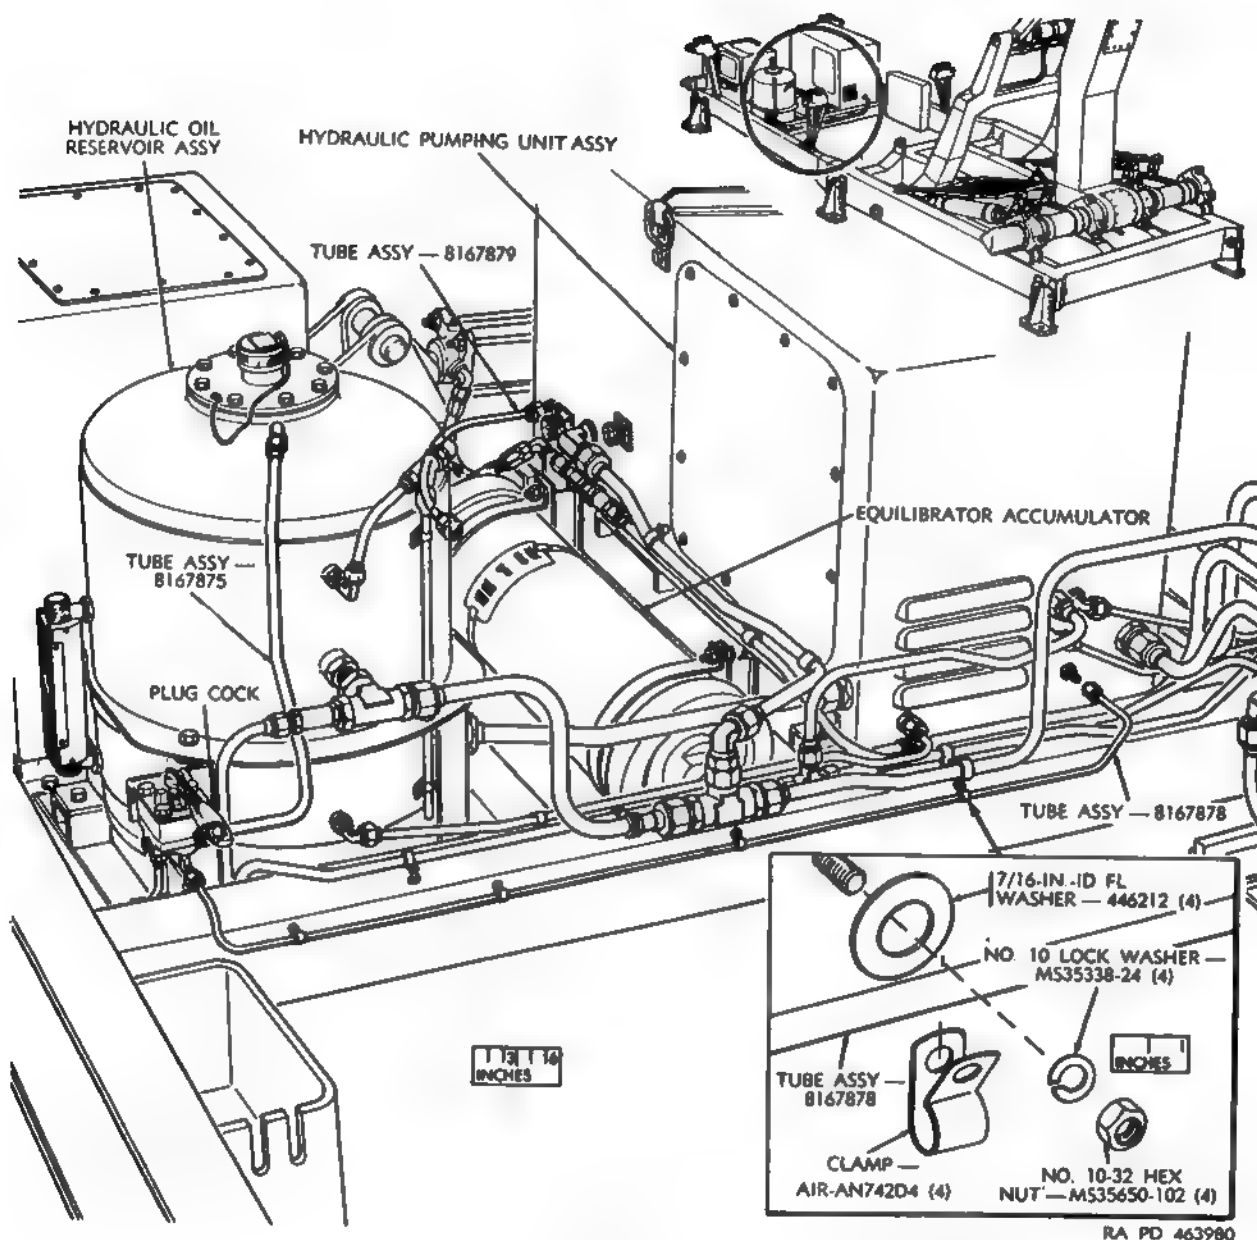

Figure 178. Precharge system hydraulic network — removal and installation.
The precharge system hydraulic network consists of three tube assemblies (fig. 178) and clamps. Tube assembly—8167879 connects the hydraulic pumping unit assembly to the equi-
- (c) Remove the tube assembly (fig. 178) and cap the open lines.
- (d) Remove the clamps (fig. 178) and the tube assembly, and cap the open lines.
- (d) Remove the tube assembly (fig. 178) and cap the open lines.